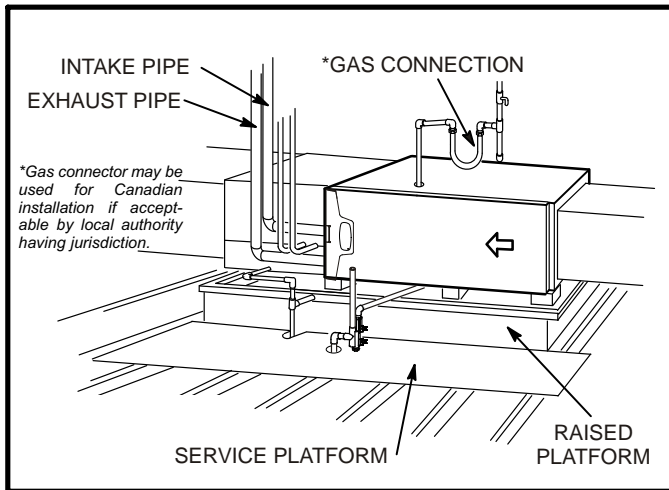

FIGURE 19
This furnace may be installed in either an attic or a crawlspace. Either suspend the furnace from roof rafters or floor joists, as shown in figure 18, or install the furnace on a platform, as shown in figure 19. A horizontal suspension kit (51W10) may be ordered from Lennox or use equivalent.
- 2 - Construct a raised wooden frame and cover frame with a plywood sheet. If unit is installed above finished space, install an auxiliary drain pan under unit. Set unit in drain pan as shown in figure 19. Leave 8 inches for service clearance below unit for condensate trap.